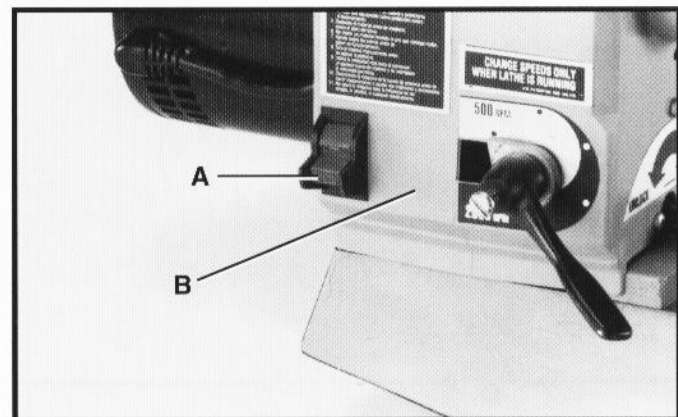

Fig. 21
The on/off switch (A) Fig. 21, is located at the front of the headstock (B). To turn the lathe "ON" move the switch to the **UP** position. To turn the lathe "OFF" move the switch (A) Fig. 21, to the **DOWN** position.